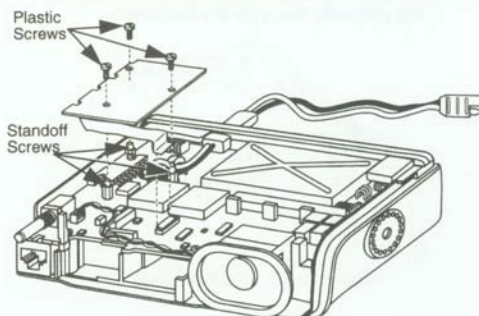

Figure 1-8. Position of Advantage Board
9. With the component side of the option board facing down, position the holes of the Advantage Board over the standoff screws on main board (Figure 1-8).